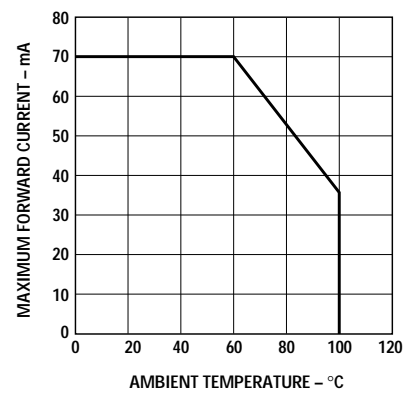

Figure 4. Maximum forward current vs. ambient temperature. Derated based on $T_{JMAX} = 125^{\circ}\text{C}$, $R_{\theta JA} = 300^{\circ}\text{C/W}$.
1. Derate linearly as shown in figure 4.